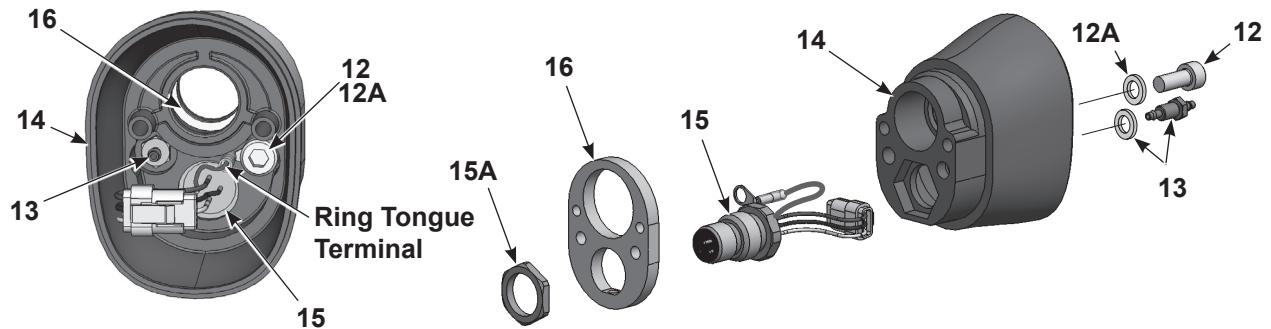

Figure 21 Tube-Mount Gun Disassembly 5 of 5
18. See Figure 21. To disassemble the rear body assembly, remove the screw (12) and barbed fitting (13) from inside the rear gun body (14). A 3-mm hex key and 1/4-in. deep-well socket are required.
19. Remove the nut (15A) from the receptacle, pull the grounding plate (16) off the rear gun body, and feed the receptacle harness (15) through the body.
**NOTE:** When reassembling, secure the ring-tongue ground terminal to the rear gun body with the screw (12) and lock washer (12A) and torque the screw to 2.5 N•m (22 inch-lbs).